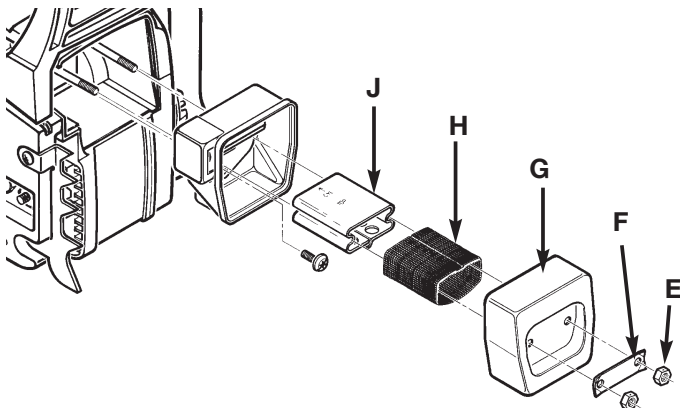

Fig. 34
1. To flatten the corners of the lock plate to be able to access the retaining nuts. Remove 2 muffler retaining nuts (E), Lock plate (F) and muffler cover (G) (Fig. 34).
2. Remove spark arrester screen (H) from the metal baffle (J). Replace screen with new one.